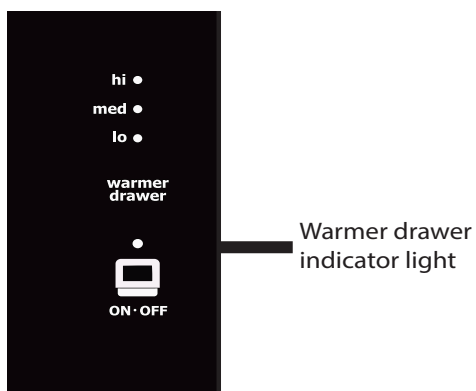

Figure 56: Control showing warmer drawer indicator light
2. Press **ON-OFF** and the warmer drawer indicator light will turn on and flash. (Figure 56).